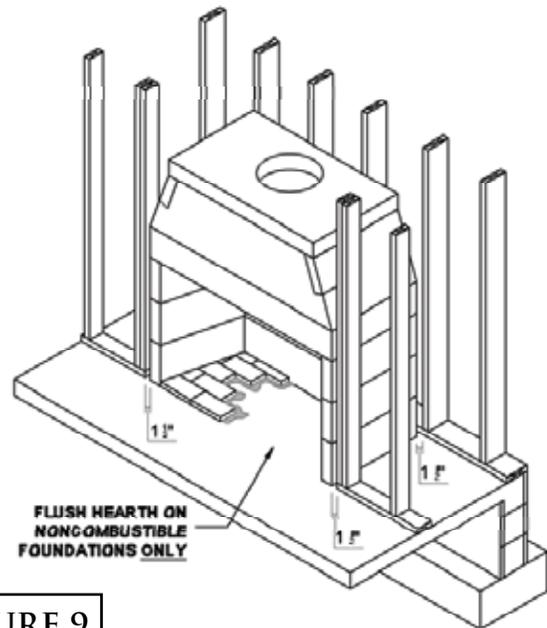

FIGURE 9
**Notes:** If the design preference is for a “flush hearth” (fireplace floor flush with the room’s floor), the base plate can be omitted from the assembly and the firebox walls built directly on the concrete support slab. (Figure 9) The fire brick floor of the firebox is then set directly to the concrete support slab. This makes the fireplace finished fire brick floor approximately one and one-half inches (1-1/2”) above the top of the concrete support slab.